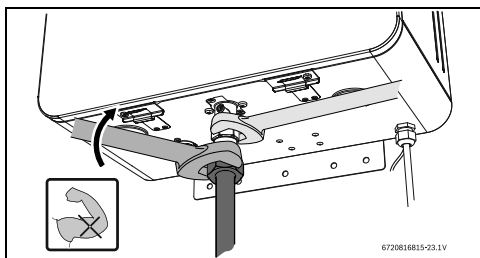

Fig. 24 Tighten gas pipe to the heater
- ▶ Tighten gas pipe with the support of a wrench, see fig. 24.